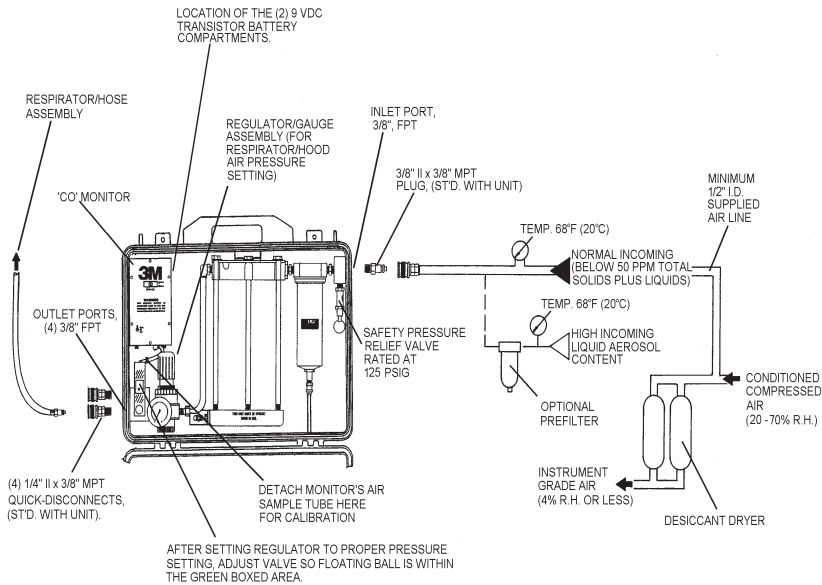

Fig. 4
The 3M filter and regulator panel, with CO filtration when used in accordance with the following instructions, will remove or reduce selected contaminants from compressed air lines. (Fig. 4)
The filter and regulator panel must be installed a minimum of 25 feet away from the compressor. The actual distance required from the compressor shall be determined by the temperature of the air. The air supply temperature at the filter should be 68-150°F (20-65°C) for maximum efficiency. Conditioning equipment may be necessary, prior to the filter, to achieve this temperature range. (Fig. 4)
The following instructions are intended to serve as a guideline for the use of the 3M™ Portable Compressed Air Filter and Regulator Panel 256-02-00, with CO Filtration and Monitor. It is not to be considered all-inclusive, nor is it intended to replace the policy and procedures for each facility. (Fig. 4 and 5)
**NOTE:** If excessive oil/water is present, install a separate coalescing prefilter such as the 3M™ Coalescing Filter Assembly W-3012 prior to the system inlet. (Fig. 4)